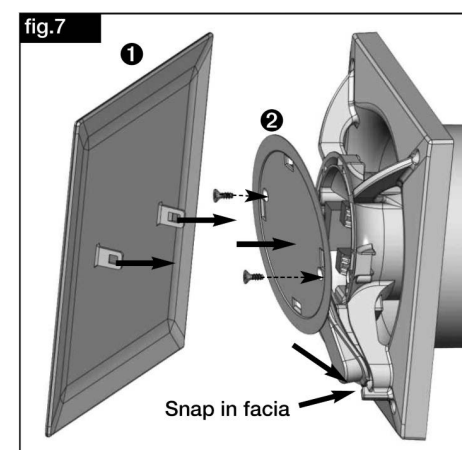

fig.7
3. Unfasten the screws of the control board cover (2) (Fig.7).